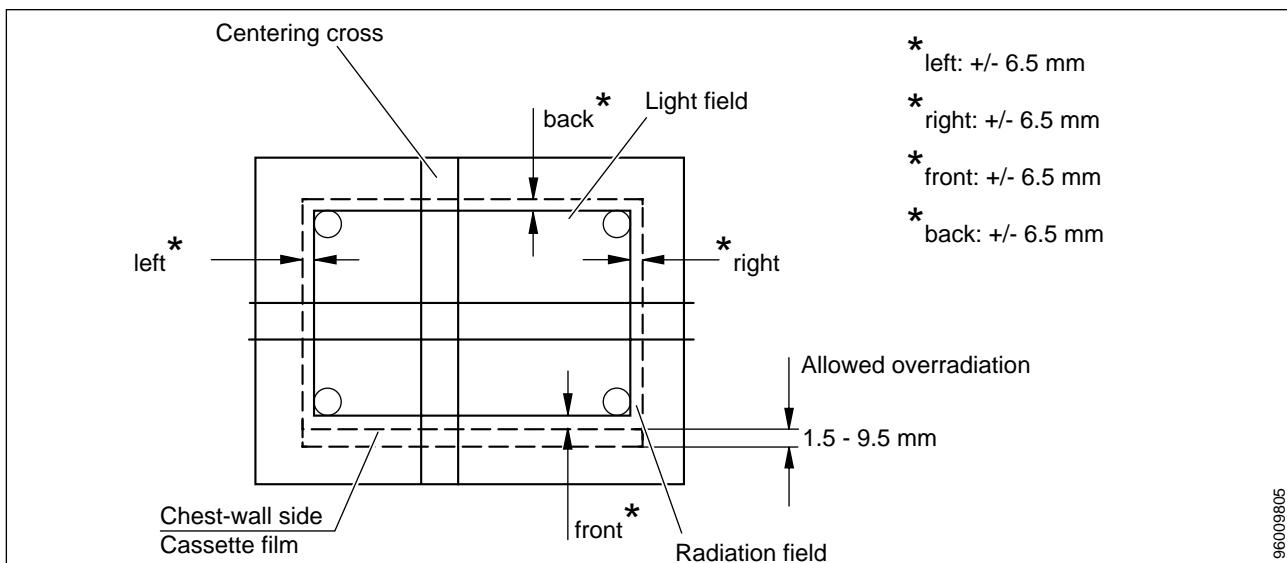

Fig. 2 Field limitation
1. On the film that was placed in the film bag, mark the light field limit with guidance of the coin marks as shown in Fig. 2 above.